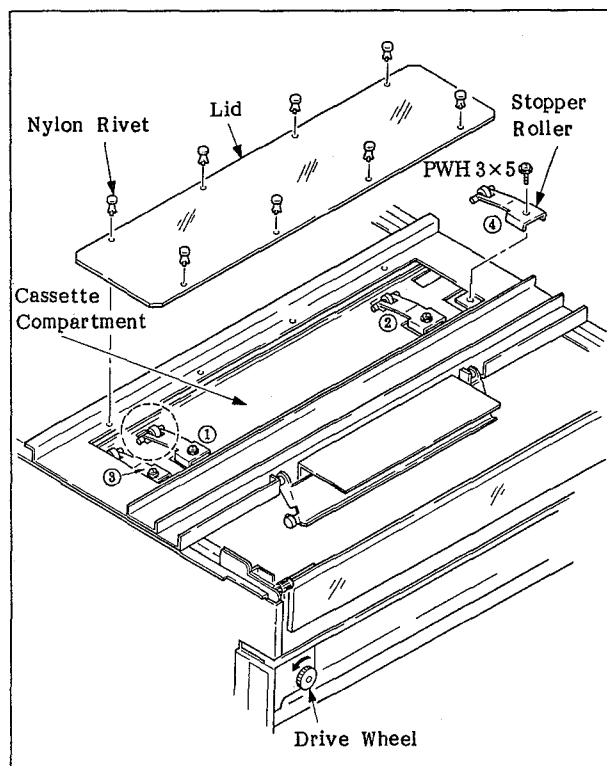

Fig. 6-29 Replacement of the Stopper Roller
4. Replace the stopper roller with a new one by referring to Figure 6-29 and fasten the stopper roller with a screw (PWH3 x 5). Leave the screw loose enough to allow the stopper roller to be moved slightly.